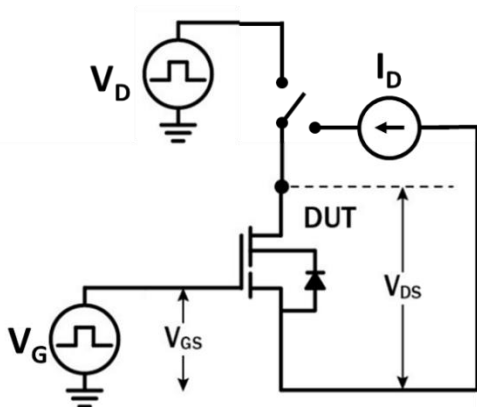

Figure 19. Dynamic RDS(on)eff Test Circuit
f. Dynamic on-resistance; see Figures 19 and 20 for test circuit and conditions